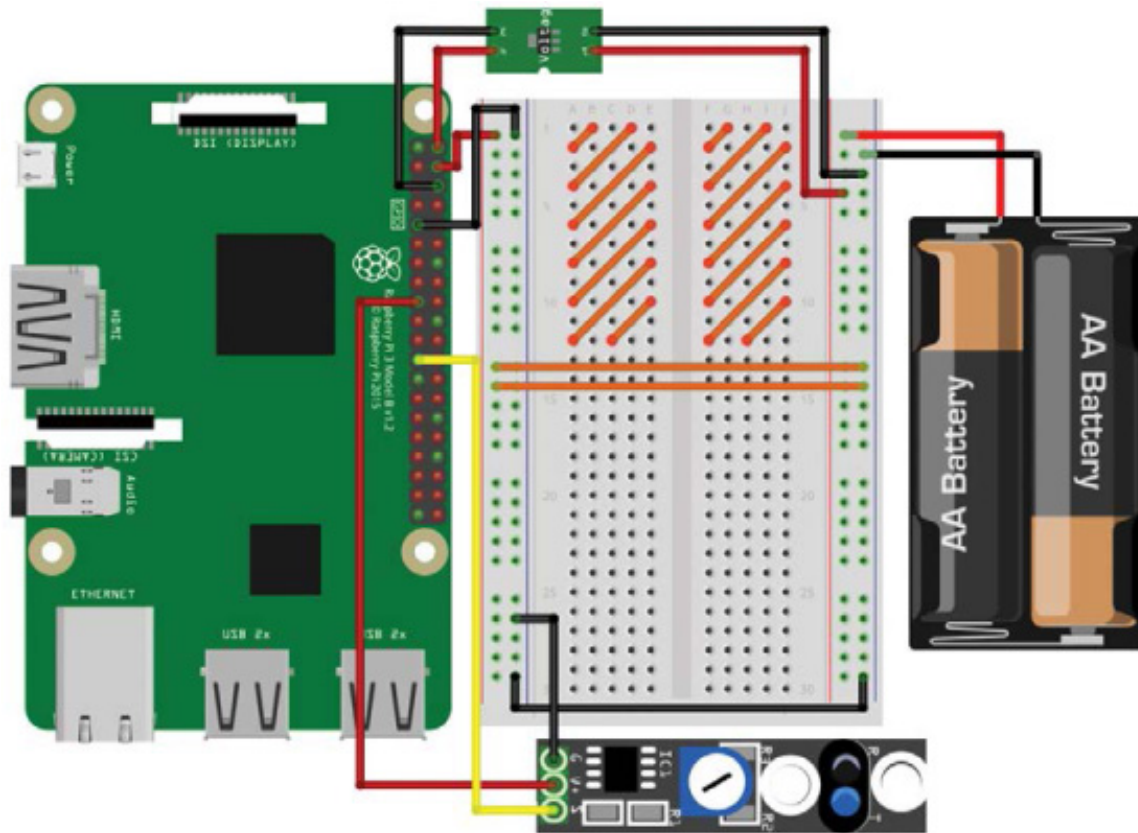

FIGURE 7-13 Second line-following sensor connected to power, ground, and data
- Use a wire to connect the data output pin of your second sensor (OUT) to physical pin 23 on your Pi. This is BCM 11. The wiring for the second sensor, with the first sensor omitted, should look like Figure 7-13.